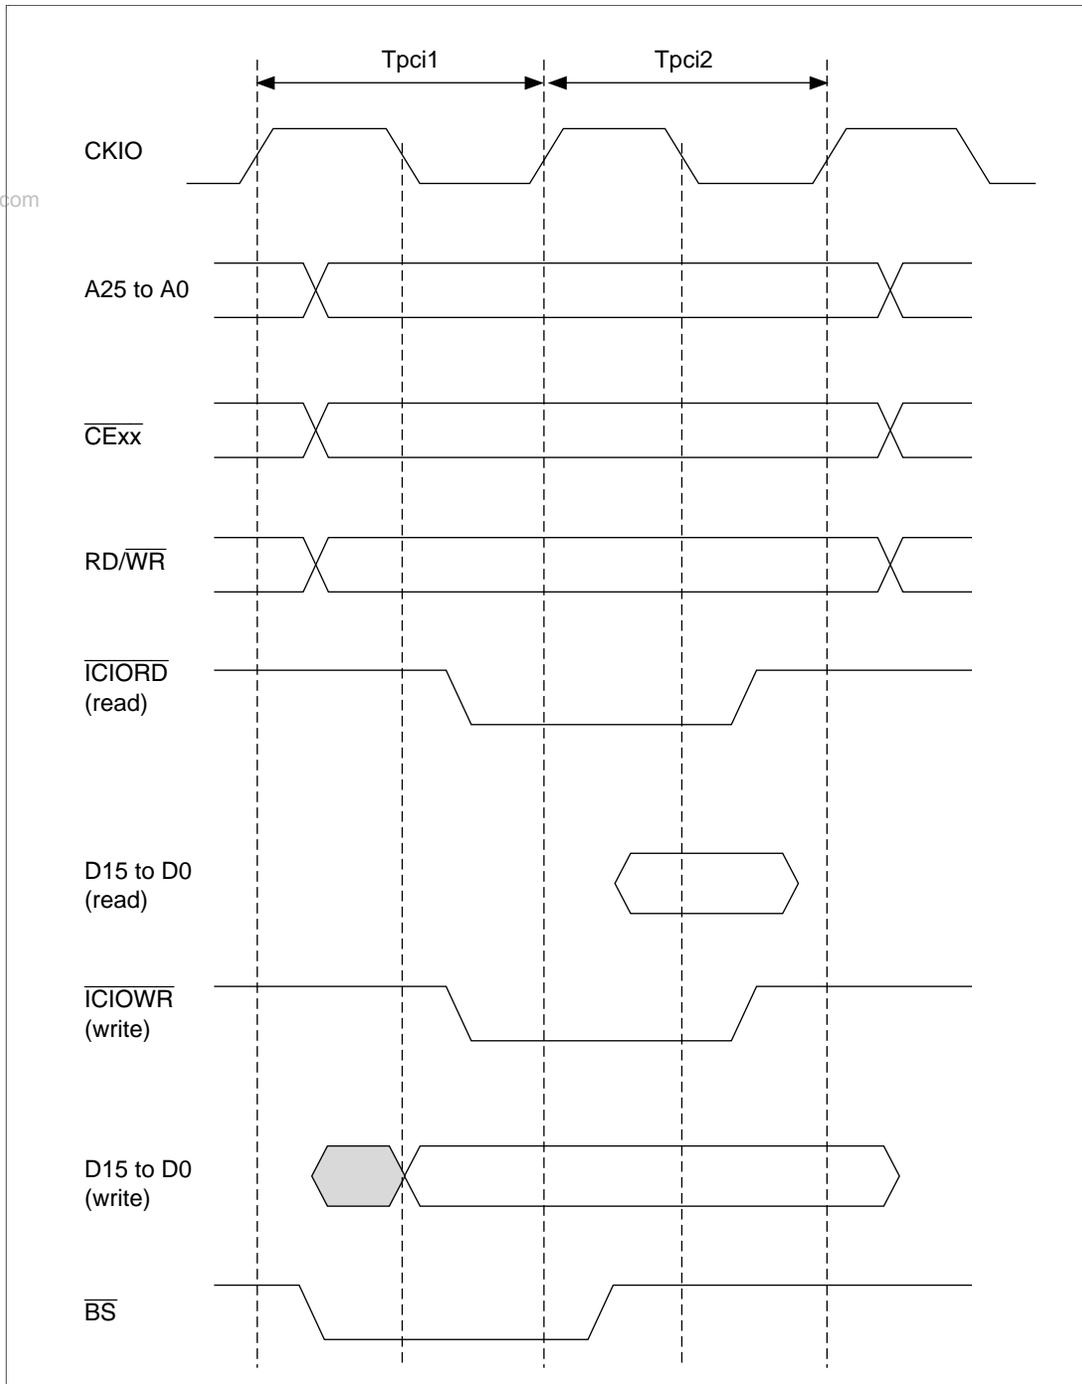

Figure 10.46 Basic Timing for PCMCIA I/O Card Interface
**I/O Card Interface Timing:** Figures 10.46 and 10.47 show the timing for the PCMCIA I/O card interface.